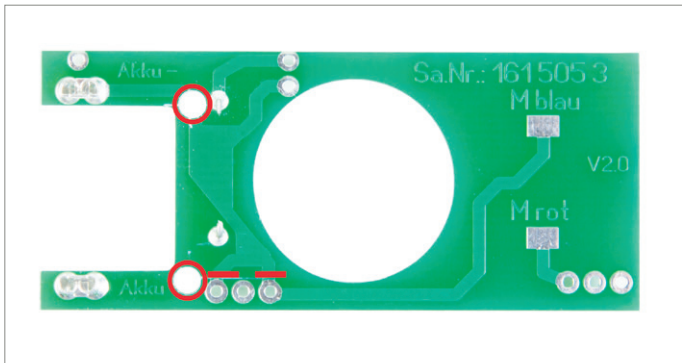

Fig. 32: Cutting strip conductors on the universal PCB, plugged batteries
- ▶ Using a modeller's knife cut, on the upper side of the universal PCB, two of the strip conductors in accordance with Fig. 32.
- ▶ On the underside of the universal PCB bore through the strip conductors, using a rod-shaped mortiser, in accordance with Fig. 32.